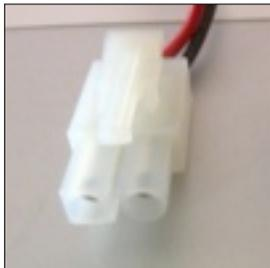

Fig 2. Male connector
The cameras were deployed for a total of 57 nights from June 11 through August 7th, 2011. Both the north and south facing cameras obtained useable images 82% of the time, information from only one direction was obtained 14% of the time and neither camera functioned the remaining 4% (Figure 2). Though the higher ISO afforded by the Canon 5D allowed for crisper images when photographing moving subjects due to the lower shutter speed, the detail was not so great as to justify the higher price per camera.
Most of the equipment can be used as-is out of the box. The first thing to do is to drill a hole in the Pelican case and fit the UV filter into it as a window using silicon. Next we will need to modify the DC Coupler so it can be connected to the LiPo battery, don't be afraid. The DC coupler is made so that you can plug your camera into a wall outlet but we will be making some modifications/additions so that the battery can be hooked up instead. When you purchase the battery it comes with a generic connection point and a set of adapters that will attach to multiple connector types. One of these female adapters has a square hole for the positive terminal and a sort of barn door shape for the negative, this is the one that we will be using (Fig. 1). The next thing that we will need to do is modify the DC Coupler so that we can plug it into the battery. To do this we will need to crack open the coupler and solder on the male counterpart to the connector on the battery. You can easily pick up one of the appropriate male connectors (Fig. 2) at a Radio Shack, an electronics store or your local hobby shop, be sure to bring the female connector (or the entire battery) with you to the shop to ensure you purchase the right one. On the side of the DC coupler is a small opening where you would connect your wall plug and we will need to drill a small hole just below this to pass the wires through (Fig. 3). If you feel uncomfortable doing this type of thing find a friend, colleague or local electrician to help. With the hole drilled and the DC Coupler cracked open we will solder the positive wire (the red one) to the right-most of the three pins and the negative wire (the black one) to the remaining two pins (Fig. 4). If the wires that came on your male adapter are not long enough you may need to splice in some longer sections of the same grade (and color) wire so that you have room within the pelican case to freely move the battery. The assembled coupler and the final finished Battery-Connector-Coupler set-up should look like figure 5.
- 1.1. The battery has two connections, the female one that connects to the DC Coupler (Fig. 1) and another smaller white female connector with three openings. The latter ensures that the battery charges at the proper rate. The charger comes with a male adapter that is the same as one we attached to the DC Coupler (Fig. 2)